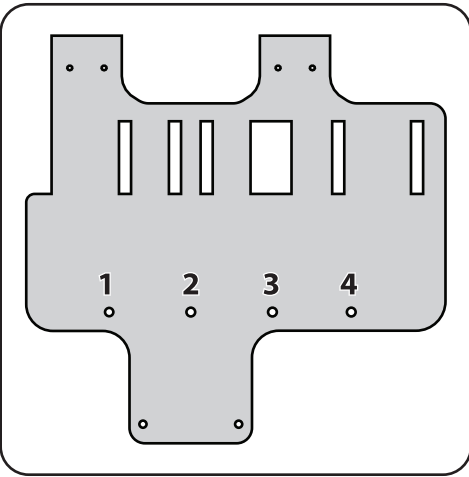

Figure 4-5
- Using Figure 4-5 and the chart below, locate the correct mounting hole location on the mounting bracket for your tractor: